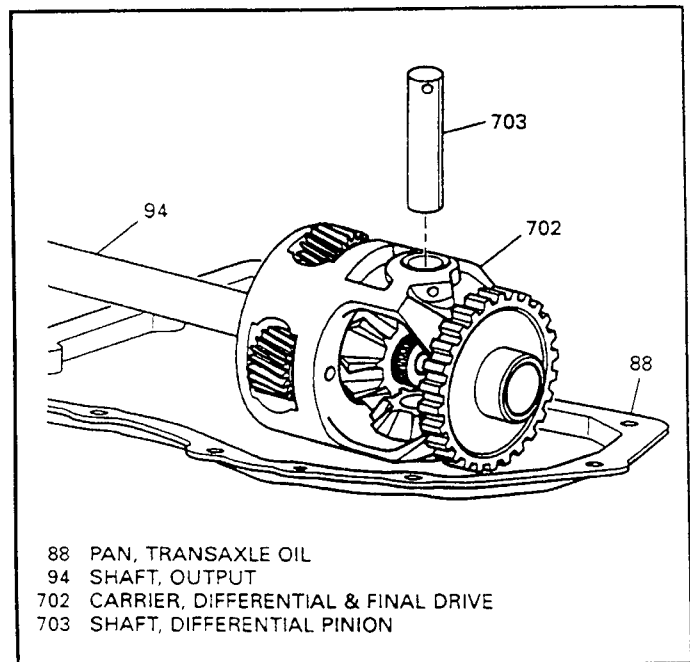

Figure 95
5. Remove the differential pinion cross shaft from final drive housing as shown in Figure 95.